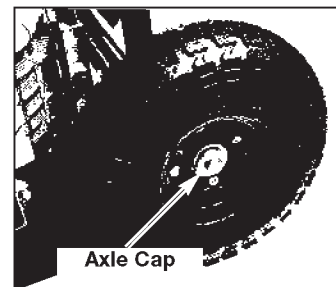

Figure 8
- Tap axle cap (5) onto axle. See Figure 8. **NOTE:** Axle will need to be supported for axle cap to secure correctly.